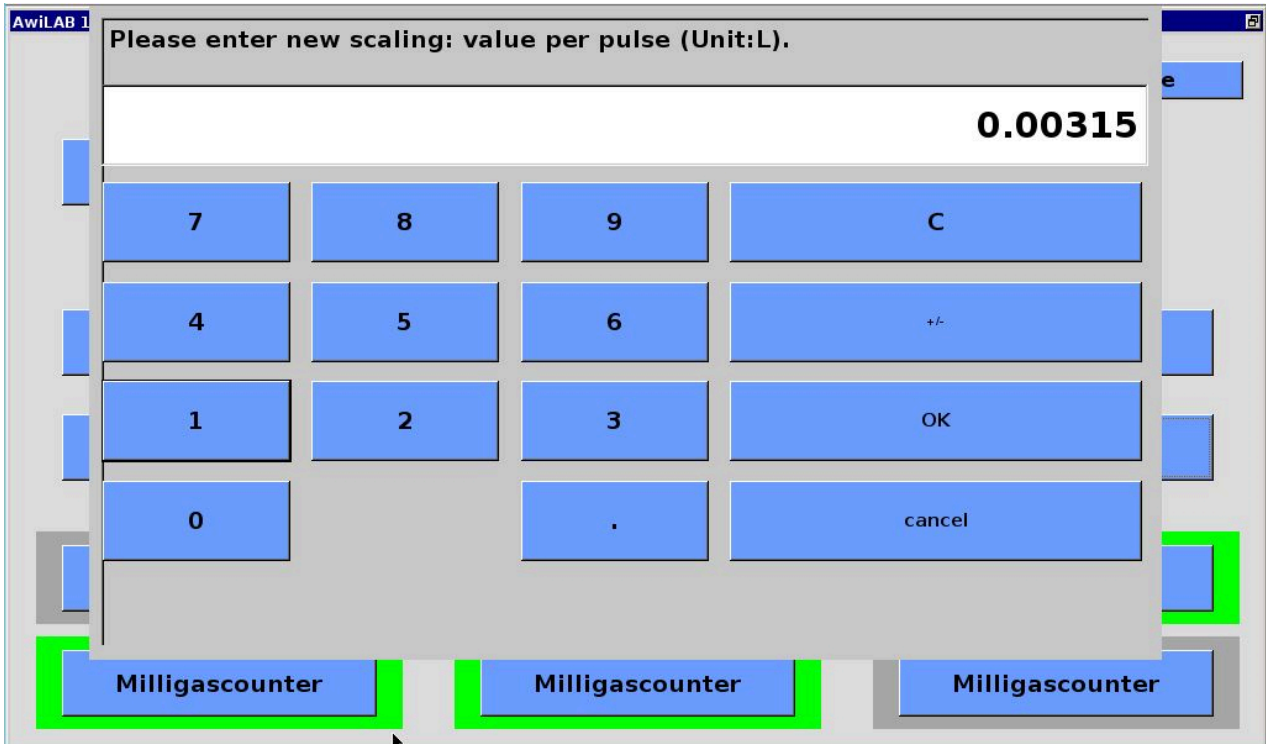

Figure 25: Scaling Milligas Counter / Drum Gas Meter
3. The field Factor shows the amount in liters that is counted by the milligas counter / drum gas meter per pulse. This factor must always be adjusted before putting the meter into operation (Fig. 25 "Factor"). In the case of the milligas counter, this factor is indicated on the type plate as measuring chamber volume. In drum gas meters, the amounts per revolution and the pulses per revolution are displayed. These must be converted and entered accordingly (example: 0.5 liters/revolution and 200 pulses/revolution corresponds to 0.0025 liters as input value)